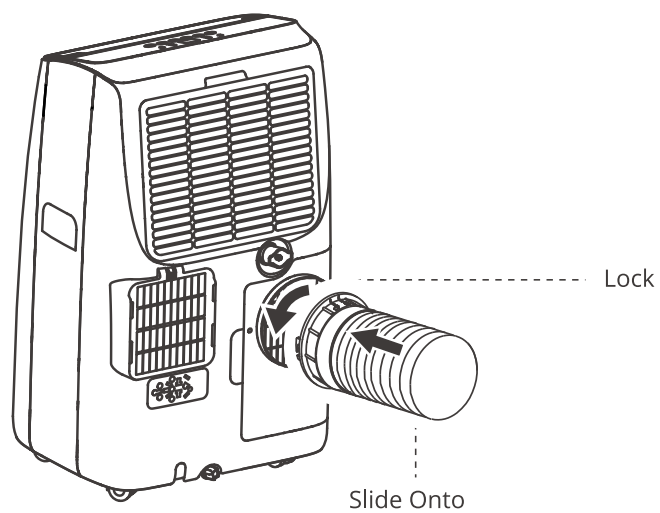

Fig.4
4. Install the hose inlet into the unit (Fig.4).